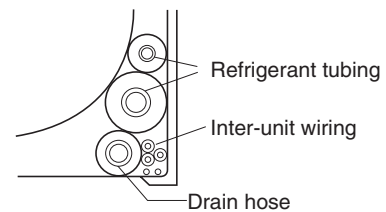

Fig. 1-81
- (5) Assemble the refrigerant tubing, drain hose and inter-unit wiring as shown in Fig. 1-81.